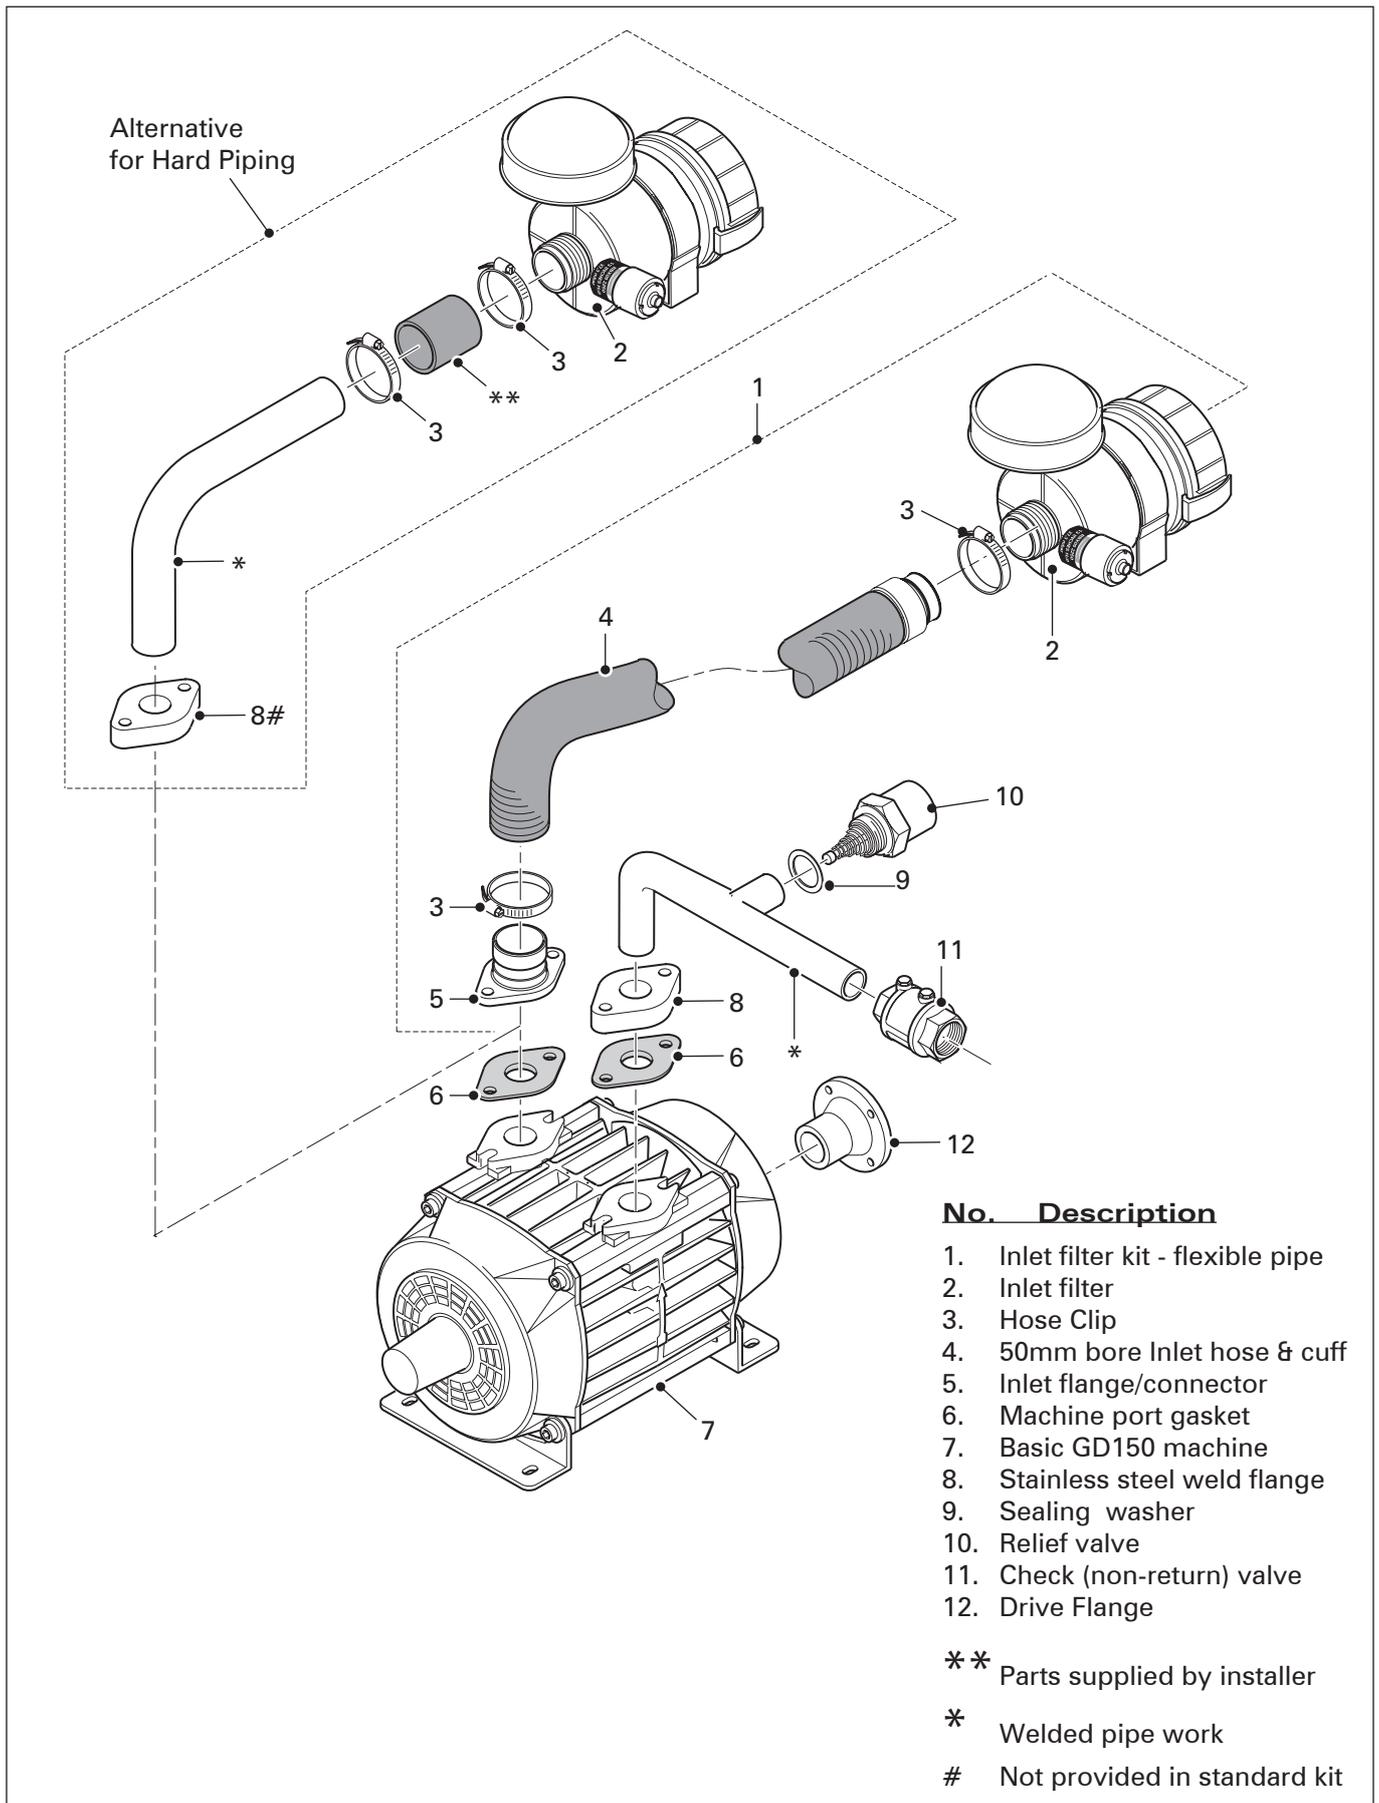

Figure 8. General Arrangement.
Air Inlet Filter and Flexible Induction Kit. (Fig 8, items 1)
Relief Valve. (Fig 8, Item 12)
Check (non-return) Valve (Fig 8, Item 13)